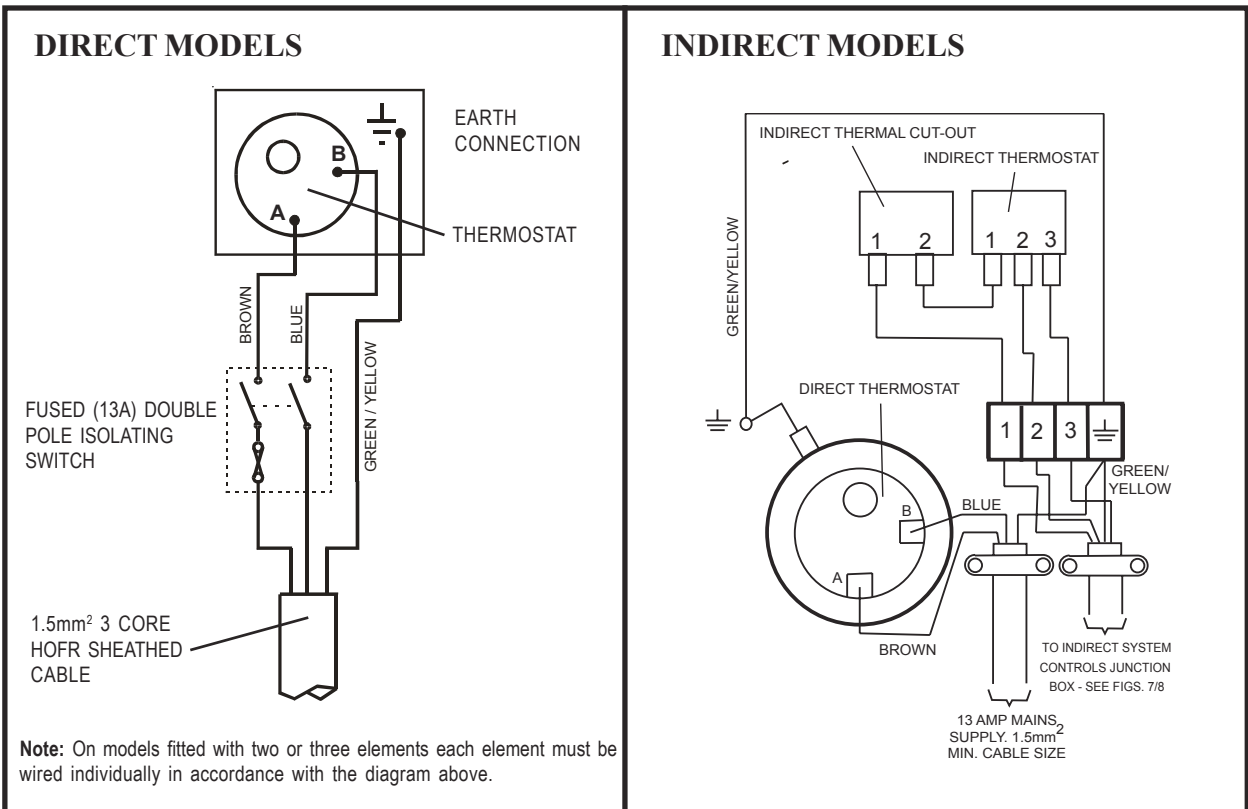

FIG. 6 Electrical Connections (Schematic)
4.2 ELECTRICAL SUPPLY (FIG. 6)
5.2 ELECTRICAL SUPPLY (FIG. 6)